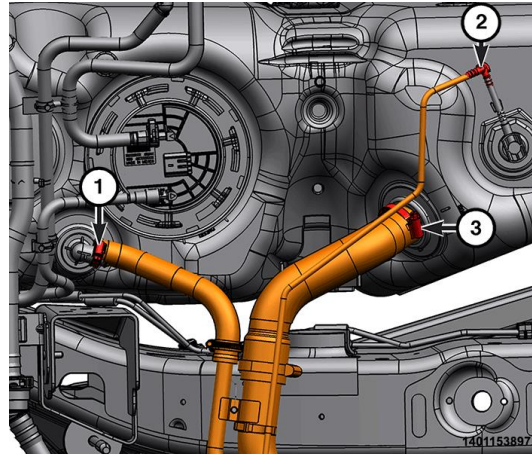

Figure 36 – Fuel Tank Connections (Sales Code NFT Shown)
10. Loosen the clamp (3) and disconnect the fuel filler hose (Figure 36).
11. Loosen the clamp (1) and disconnect the fuel vent hose (Figure 36).
12. Disconnect the fresh air vent hose (2) (Figure 36).
36. Connect the fresh air vent hose (2) (Figure 36).
37. Connect the fuel vent hose and securely tighten the clamp (1) (Figure 36).
38. Connect the fuel filler hose and securely tighten the clamp (3) (Figure 36).